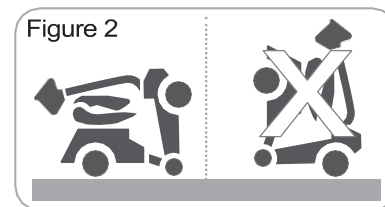

Figure 2
- When folding or unfolding, you must place and lay down the scooter on a flat ground (Figure 2).